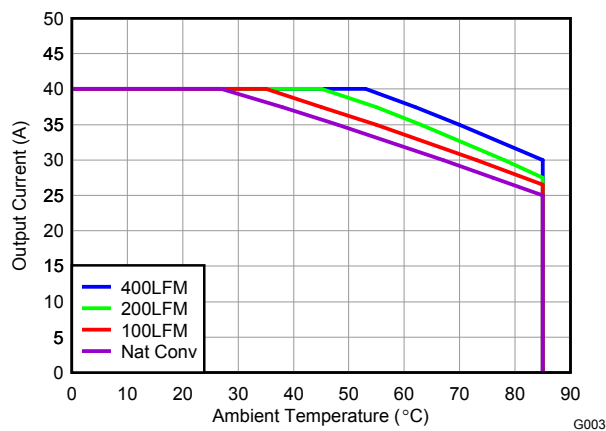
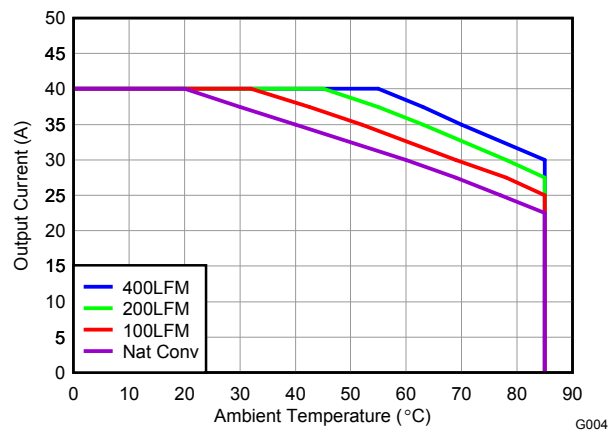
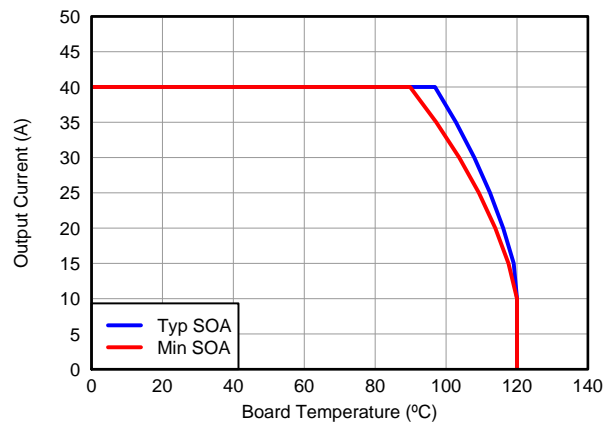

Figure 9. Safe Operating Area – PCB Vertical Mount (1)
Figure 10. Safe Operating Area – PCB Horizontal Mount (1)
Figure 11. Typical and Min Safe Operating Area (1)
The SOA curves in the CSD97370AQ5M datasheet give engineers guidance on the temperature boundaries within an operating system by incorporating the thermal resistance and system power loss. Figure 9, Figure 10, and Figure 11 outline the temperature and airflow conditions required for a given load current. The area under the curve dictates the safe operating area. All the curves are based on measurements made on a PCB design with dimensions of 4.0" (W) x 3.5" (L) x 0.062" (T) and 6 copper layers of 1 oz. copper thickness.